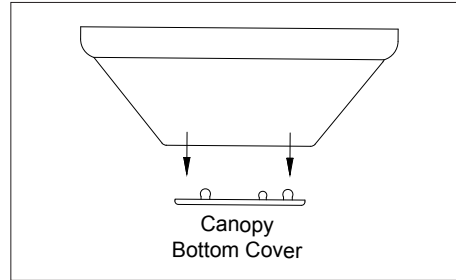

Figure 8
3. Remove the decorative canopy bottom cover from the canopy by depressing the three studs. (Figure 8)